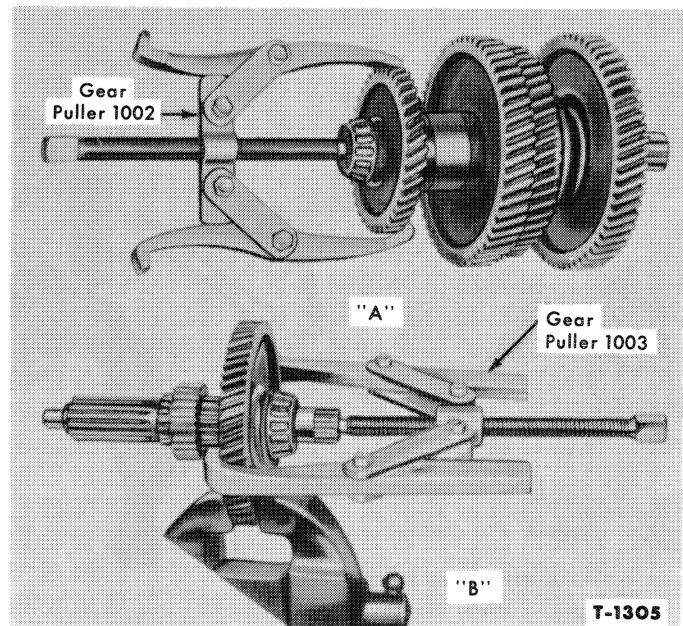

Figure 8—Removing Mainshaft Gears and Bearings
2. Remove the 4th gear, thrust washer and front bearing, with Gear Puller 1002 as shown in "A", Figure 8.
4. Remove the 1st gear, thrust washer, rear bearing and oil seal sleeve with Gear Puller 1003, as shown in "B", Figure 8.